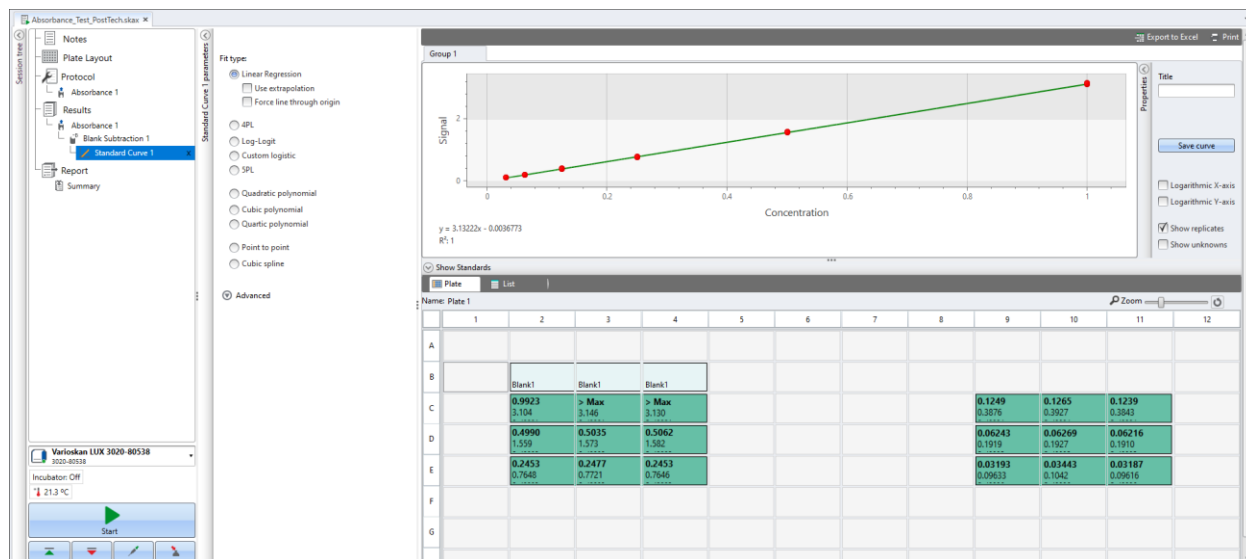

Figure 4: Standard curve generated for absorbance signal versus serial dilution concentration.
15. Click on "Standard Curve" subsection under the "Results" section to see a standard curve (signal vs. concentration) (**Figure 4**).